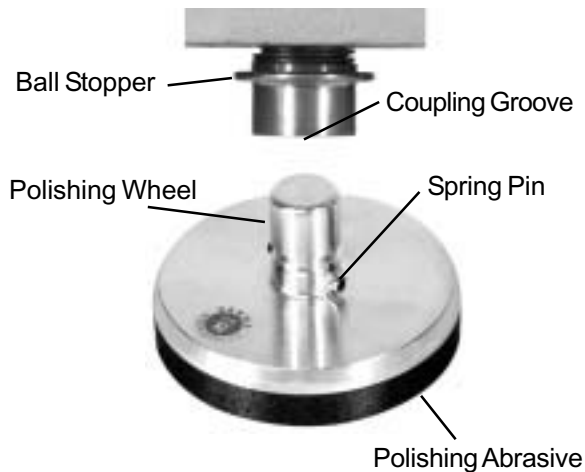

Figure 3
5. To remove the wheel, pull back the ball stopper and remove the wheel. (See figure 3)